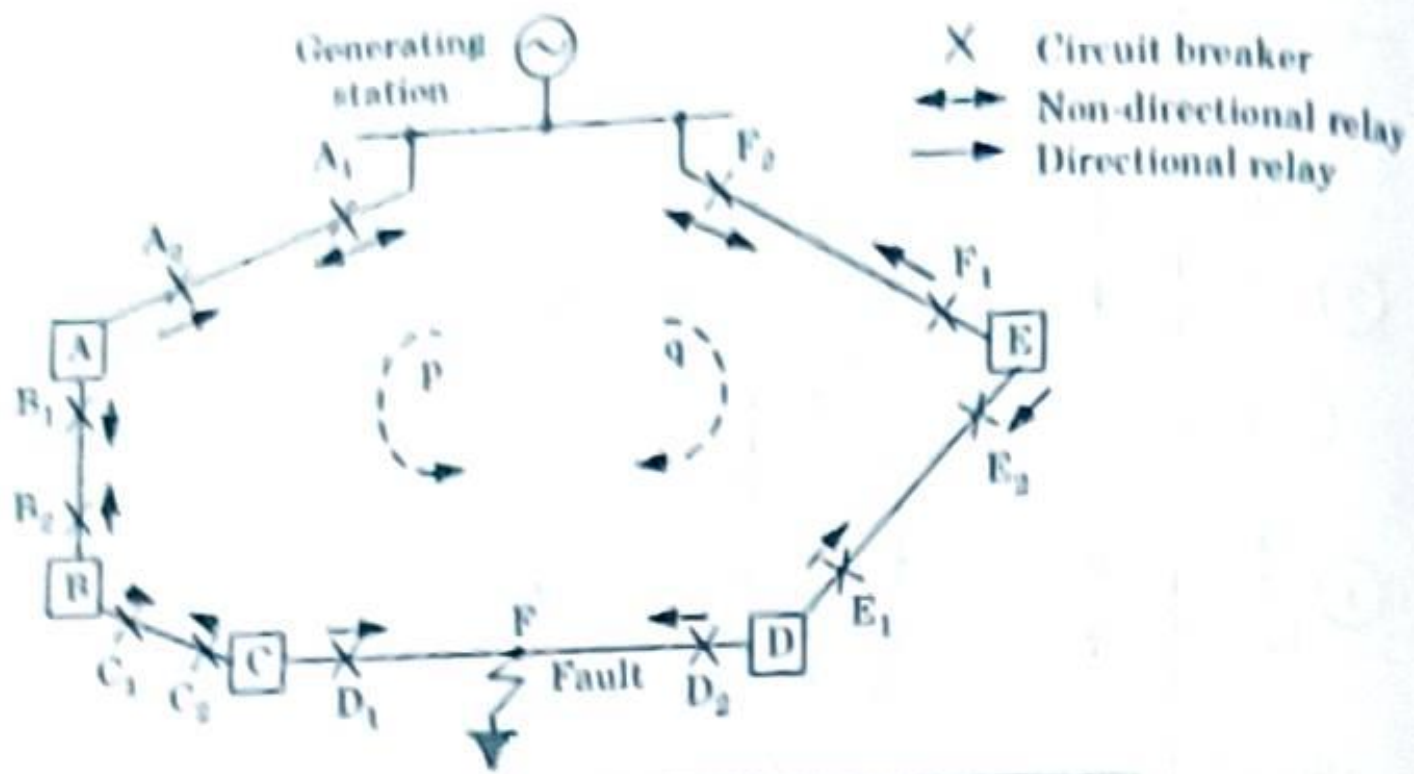

Fig. 3.14.4. Protection of ring main system.
- c. If the fault develops in a particular section CD, then it will be fed from the source through path p and path q as shown in the Fig. 3.14.4.